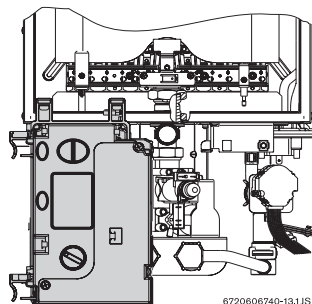

Fig. 2 Control box – gas adjustment position
- ▶ Once the control box is removed, place it as in Fig. 2.